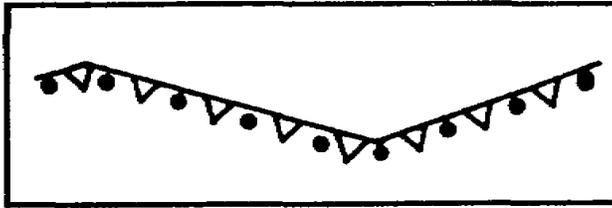

Figure 1-17. Antitank obstacle
b. Obstacles (App B, p B-48). An obstacle is any natural or man-made obstruction that canalizes, delays, restricts, or diverts movement of forces. There are four types of obstacles: points, demolitions, linear, and minefields. Figure 1-17 shows an obstacle of an antitank ditch reinforced with antitank mines.
4.	<p>A. An obstacle</p> <p>Obstacles are natural or man-made obstructions that hinder the movement of forces. In this case, the obstacle is an antitank ditch reinforced with a minefield (page 1-15, para 7b and page 1-16, figure 1-17).</p>